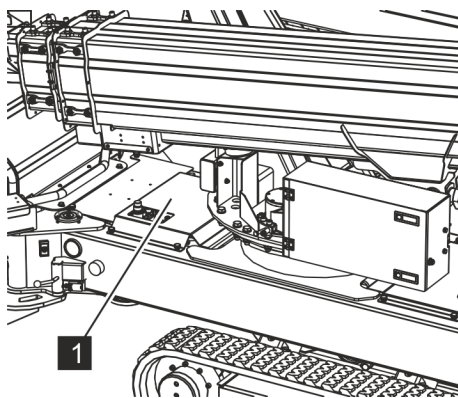

Fig. 197: Cover
2. ➤ Unscrew the cover (Fig. 197/1).